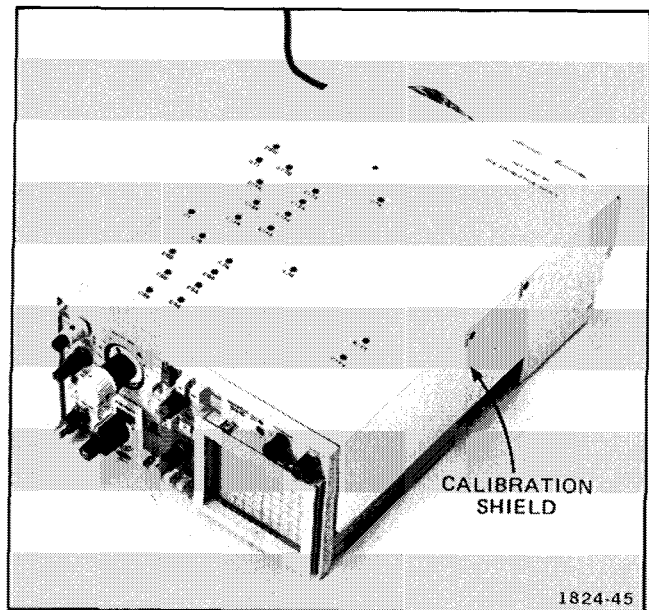

Fig. 5-2. Calibration shield in place on 314.
a. Install calibration shield. See Fig. 5-2.